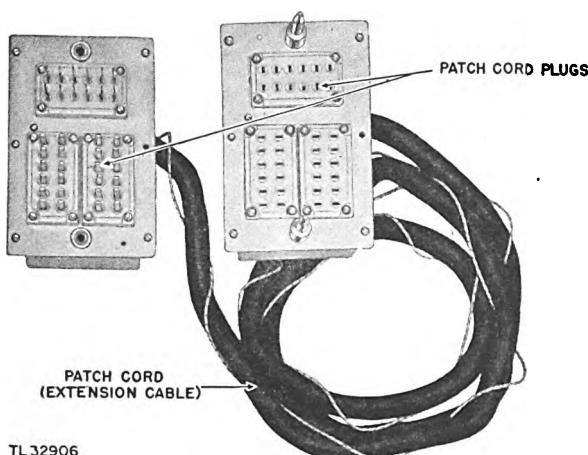

Figure 10. Extension Cables.
- (1) Voltmeter and ohmmeter with leather carrying case and leads.
- (2) Reed type frequency meter, 380-420 cycles.
- (3) Wave meter, 570-630 megacycles.
- (4) Extension cables (fig. 10) for operating the receiver and indicator while these units are removed from the console.